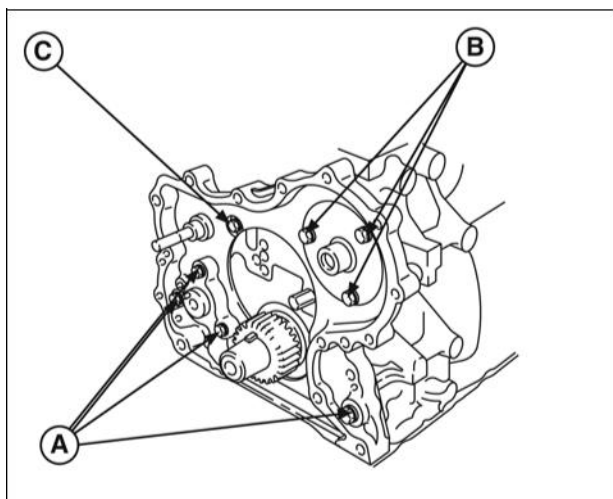

Figure 14
2. Install timing gear case with new gasket. Install camshaft retainer (Figure 14).